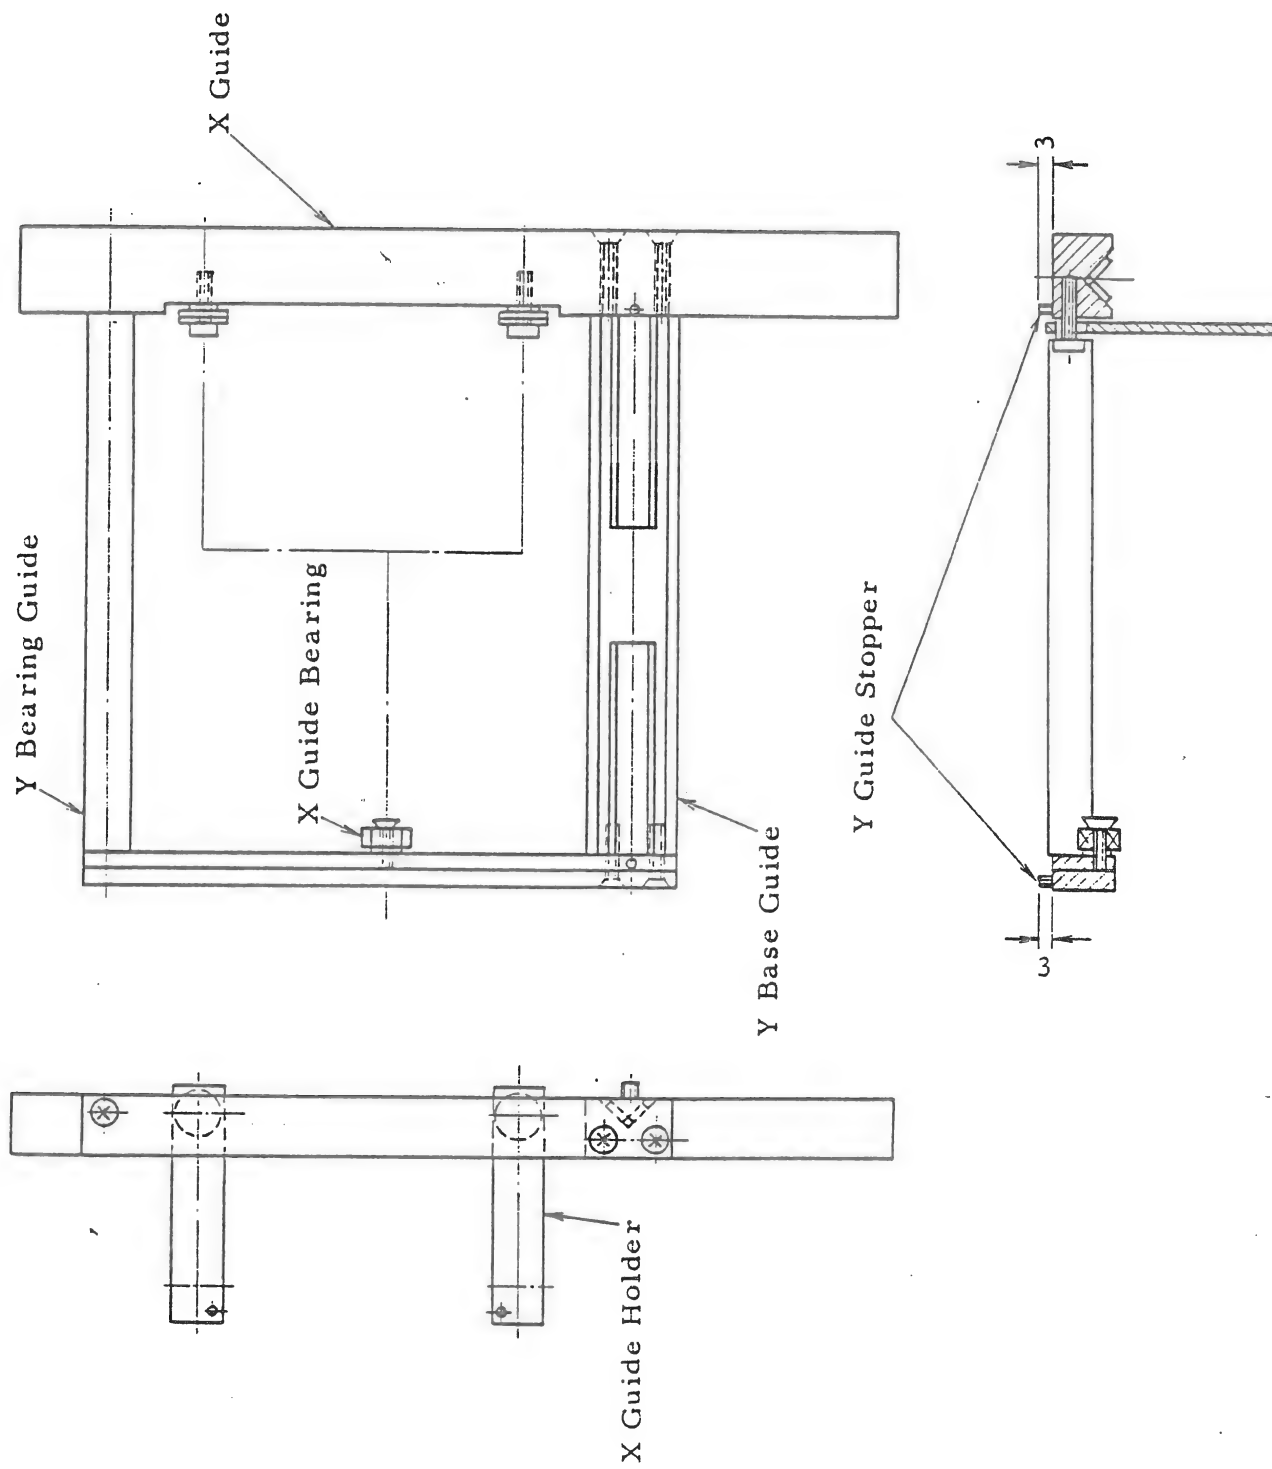

Fig. 4-19 Construction of X-Movement Mount and Y-Guide Base
- (d) X-movement mount and Y-guide base (Fig. 4-19)